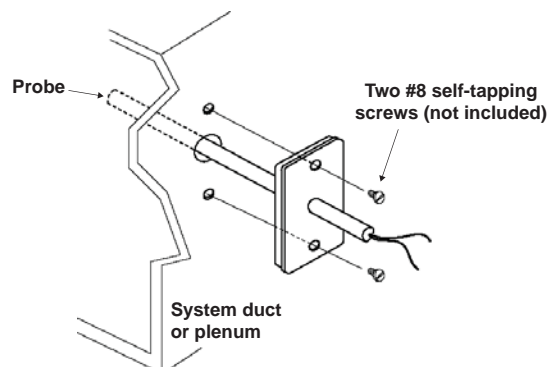

Figure 1 - Installing the TE-701-A or TE-701-B Sensor
5. Make the wiring connections. Refer to **Figure 1**.